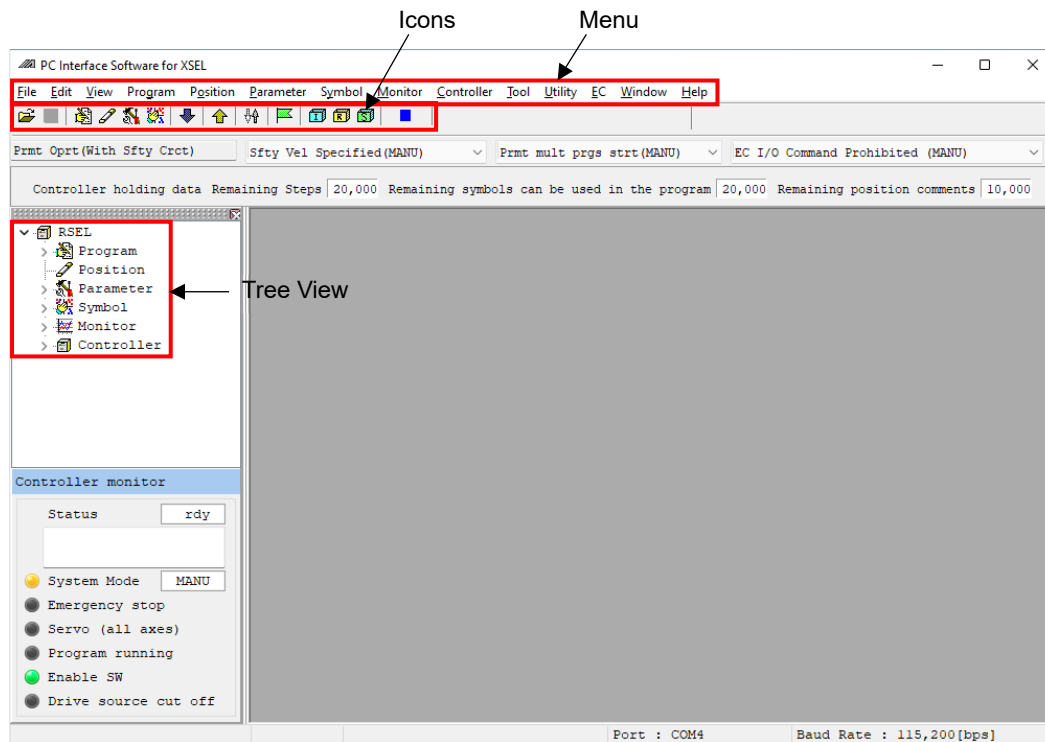

Fig. 3.1 Online Screen (RSEL Controller)
(1) RSEL controller
When this software has been started, the main window in Fig. 3.1 will open showing the menu items with icons on the tool bar in the case of the RSEL controller. The tree view appearing on the left side of the window can be displayed by clicking View (V) from the menu bar and then selecting Tree View (T). (Initial window: Main menu)